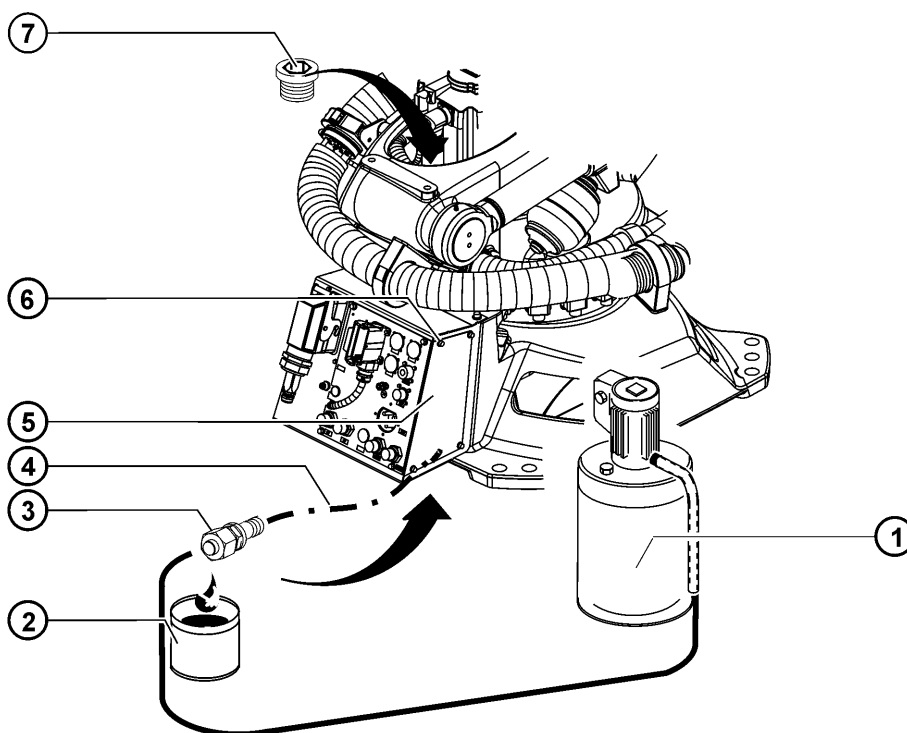

Fig. 9-3: Oil change, A1
1. Remove 4 Allen screws with conical spring washers, and take off interface A1 or cover (>>> Fig. 9-3).